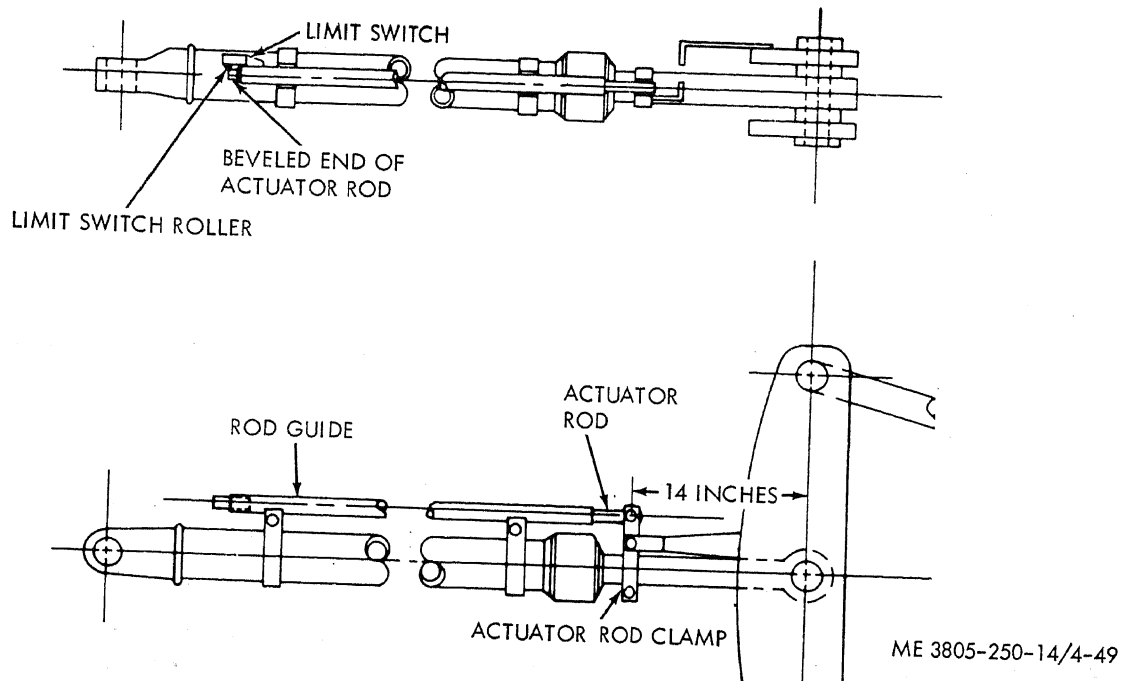

Figure 4-49. Return to dig linkage adjustment.
- (1) Rest the bucket flat on the floor.
- (2) Position the rod clamp fourteen inches from the bellcrank as shown in figure 4-49.
- (3) Position guide and microswitch on the tilt cylinder until the actuating rod contacts the switch roller but does not close the switch.